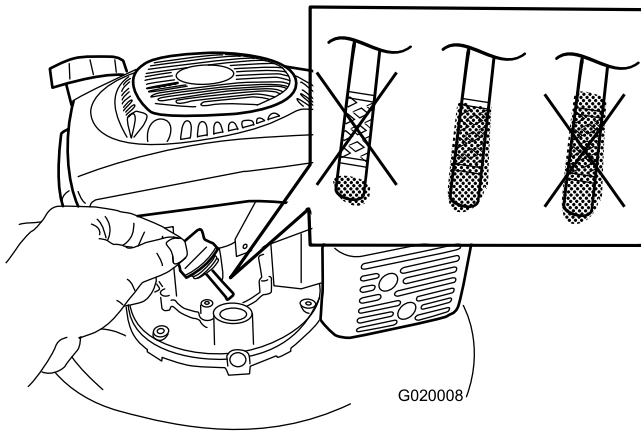

**Figure 20**
2. Tip the machine onto its side, with the dipstick down, to drain the used oil out through the oil-fill tube (Figure 20).